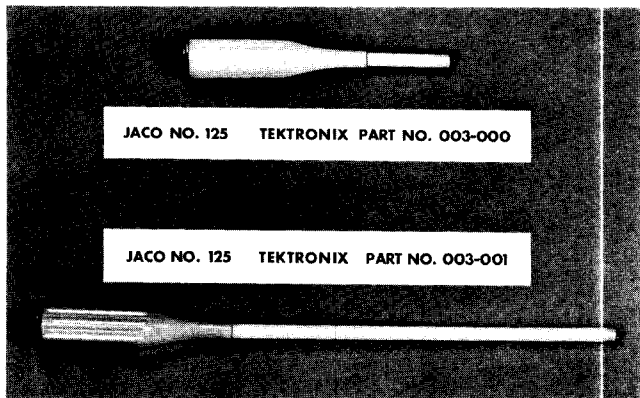

Fig. 5-1. Low capacitance, insulated alignment tools used to calibrate the Type T.
9. Insulated alignment tools. See figure. 5-1.